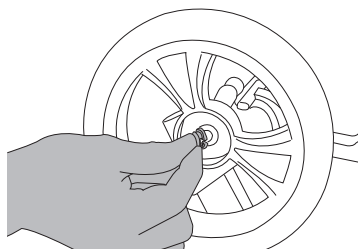

Figure 6
- Locate an axle lock and orient it with the larger side closest to the wheel and snap it onto the axle. See Figure 6. Pull outward on the wheel to ensure it is locked securely onto the axle.